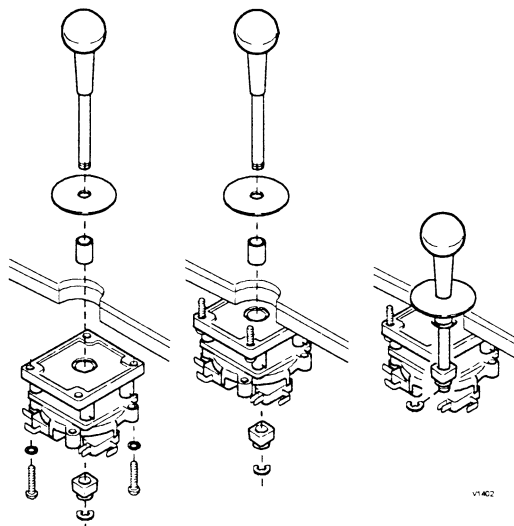

FIGURE 7: Joystick Installation
17. Install the joysticks on the control panel as shown in Figure 7.